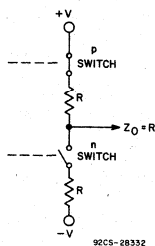

Fig. 3 — Constant output impedance of a buffered gate.
**—Buffered—**Fig. 3 depicts the buffered output stage and shows the MOS transistor as switched on with a channel resistance  $R$ ;  $R$  is the same value for the n-switch closed or the p-switch closed.
as buffered (B) types or unbuffered (UB) types by virtue of the squared or rounded transfer characteristics of Figs. 3 and 4, respectively. Even though both types have a single NMOS and single PMOS output transistor, the rounded transfer characteristic of the unbuffered inverters makes them UB types by virtue of:
**Output Impedance**—Refer to Figs. 3 and 4 and accompanying descriptions of the constant output impedance of buffered gates and the variable output impedance of unbuffered gates. Note that both buffered and unbuffered RCA 2-, 3- and 4-input gates are designed to meet the same maximum output impedance; output current ratings ( $I_{OL}$  and  $I_{OH}$ ) have the same minimum limit on RCA data sheets.